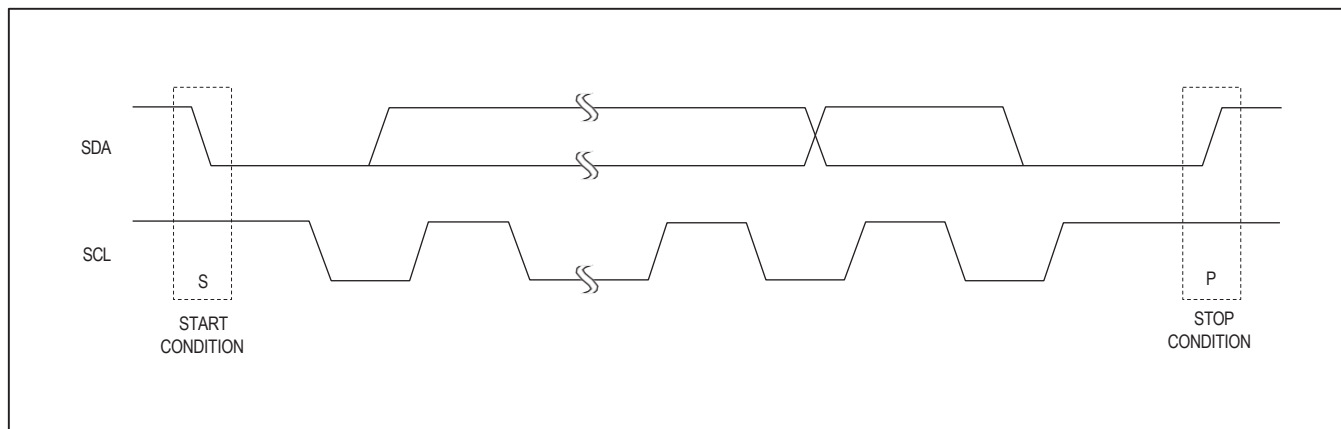

Figure 27. START and STOP Conditions
Both SCL and SDA remain high when the interface is not busy. A main signals the beginning of a transmission with a START (S) condition by transitioning SDA from high to low while SCL is high (Figure 27). When the main has finished communicating with the subordinate, it issues a STOP (P) condition by transitioning SDA from low to high while SCL is high. The bus is then free for another transmission.